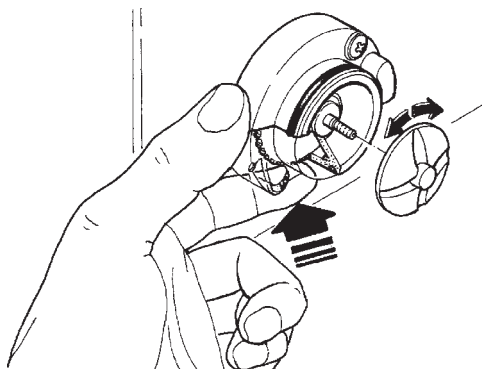

Fig. 4
- in order to remove the impellers, block the disk fitted on the mixer shaft with a finger (see Fig. 4);